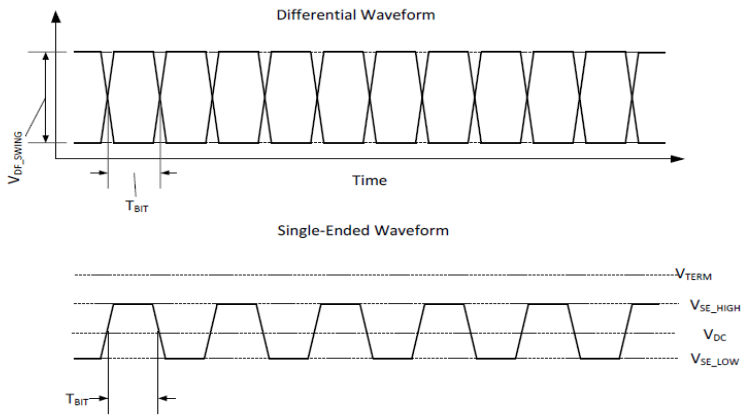

Figure 16-4. Voltage and Timing Parameters of a Differential Signal and a Single-Ended Signal
- VDF\_SWING in Figure 16-4 represents